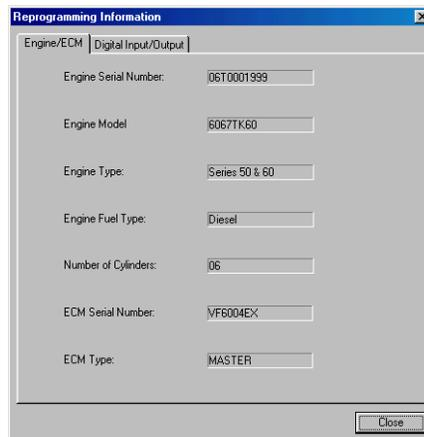

Figure 9
- When the programming is complete, a "Reprogramming Information" window will display. This will mark the end of the programming process. Click the "Close" button on this screen after reviewing and verifying that the information on this screen is correct. (Figure 9).